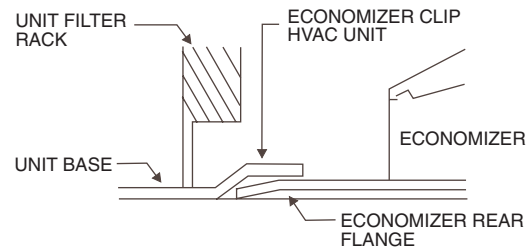

Fig. 34 — Rear EconoMi\$er Flange Installation
7. Slide the EconoMi\$er assembly into the rooftop unit. See Fig. 34 and 35.
NOTE: Be sure to engage rear EconoMi\$er flange under tabs in return air opening of the unit base. See Fig. 34.